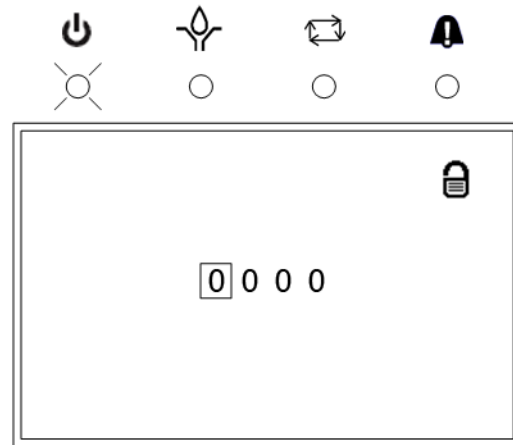

FIG. 21
- To access Setup Mode, hold down the ENTER key for 3 seconds. The PIN ModeScreen shown in FIG. 21 displays.
- The Pin Mode screen shown in FIG. 21 only displays when the PIN mode is enabled. For setting up systems when the PIN mode is not enabled, go to System Setup instructions on page 21.
- Before the PIN Mode screen shown in FIG. 21 can display, the PIN Mode must be enabled in an previous setup sequence. See PIN Setup, page 31.
- The PIN Mode screen in FIG. 21 displays.
- Use the LEFT / RIGHT arrow to position the cursor over the first blank PIN Code prompt field (FIG. 21).